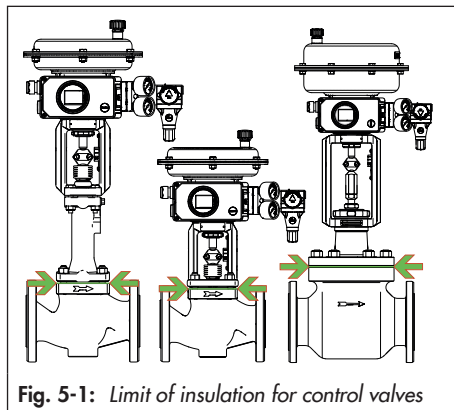

Fig. 5-1: Limit of insulation for control valves
- Only insulate control valves up to the bonnet flange of the valve body (see Fig. 5-1). This also applies to versions with insulating section at medium temperatures below 0 °C (32 °F) or above 220 °C (428 °F). If the insulating section is insulated, it will not function properly.